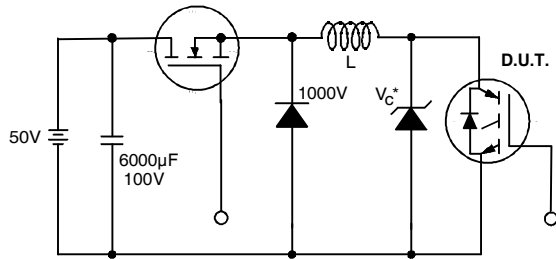

Figure 19. Clamped Inductive Load Test Circuit
- ②  $V_{CC}=80\%(V_{CES})$ ,  $V_{GE}=20V$ ,  $L=10\mu H$ ,  $R_G = 100W$  (figure 19)
- ③ Pulse width  $\leq 80\mu s$ ; duty factor  $\leq 0.1\%$ .
- ④ Pulse width  $5.0\mu s$ , single shot.